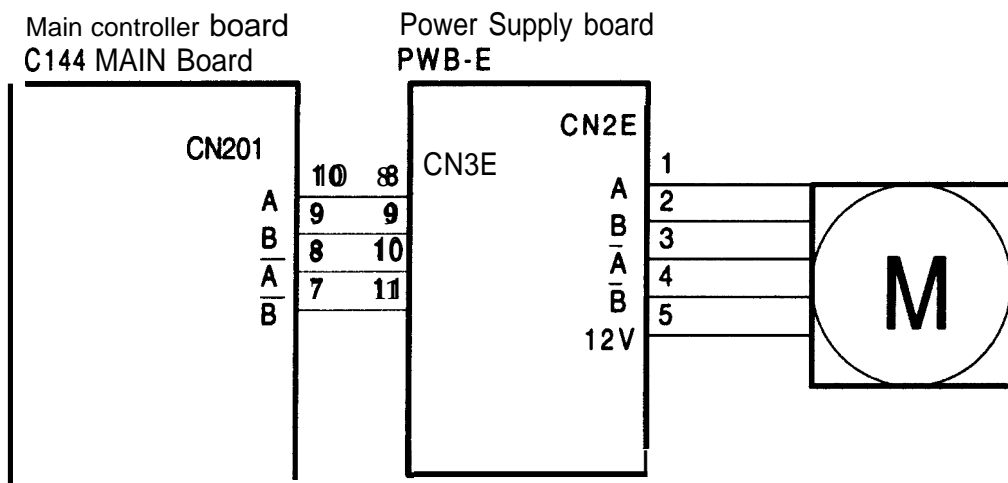

Figure 2-16. Main Motor Drive Circuit
Figure 2-16 shows the main motor drive circuit. The main motor (M) is a four-phase stepping motor. This motor is controlled by the CPU (IC201) on the main controller board (C144 MAIN). The power supply board (PWB-E) has a stepping motor driver IC. This IC drives the main motor (M) with a constant current.